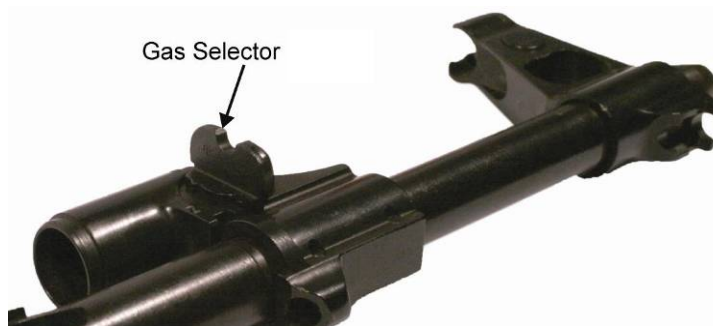

Figure 51. Gas Selector in the UP Position.
- d. Switch the gas selector to the UP position (perpendicular to the barrel), indicating normal use. Refer to Figure 51.